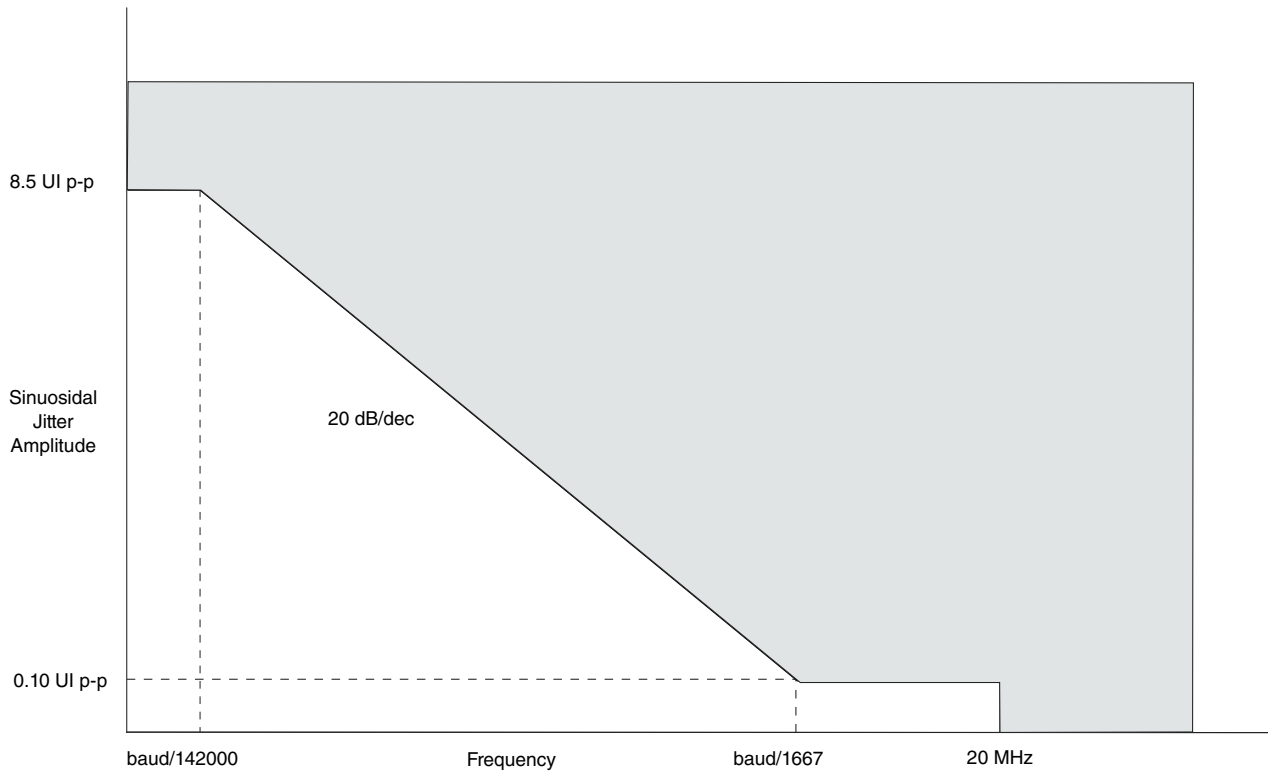

Figure 42. Single-frequency sinusoidal jitter limits
2. See Figure 42 for single frequency sinusoidal jitter measurements.